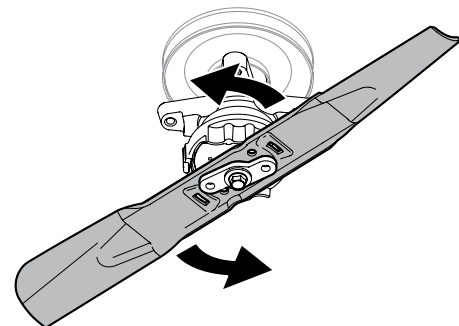

Figure 4-7
- While holding the collar in the upward position, Rotate the blade counterclockwise to free it from the collar. See Figure 4-7.